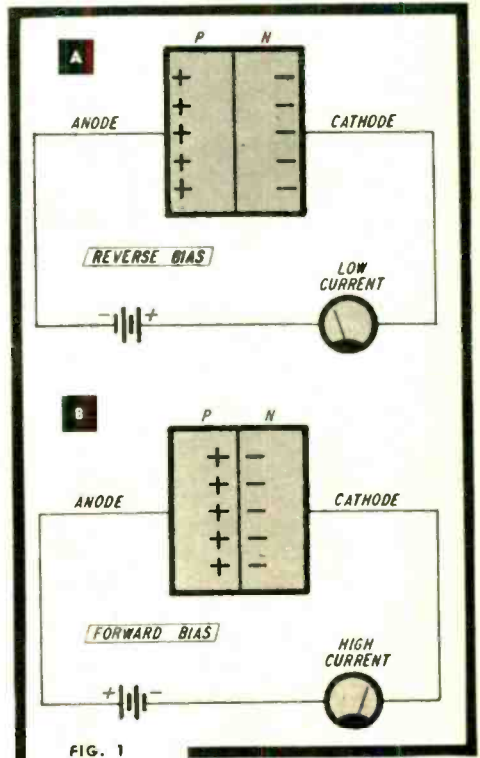

FIG. 1
Before dealing with the transistor, it would be a good idea to take a look at exactly how a diode works. A diode is made up of two crystals, a positive type (P) and a negative type (N) joined together. The P crystal serves as the anode and the N as the cathode. Fig. 1 shows a diode for two conditions of applied polarity. When the negative side of the battery is connected to the diode's anode and the positive to the cathode you have a situation known as reverse bias (A). Without getting into the matter of majority or minority current carriers, let it suffice to say that in the reverse bias condition current flow is minimized. In the forward bias condition (B), current flow is encouraged.